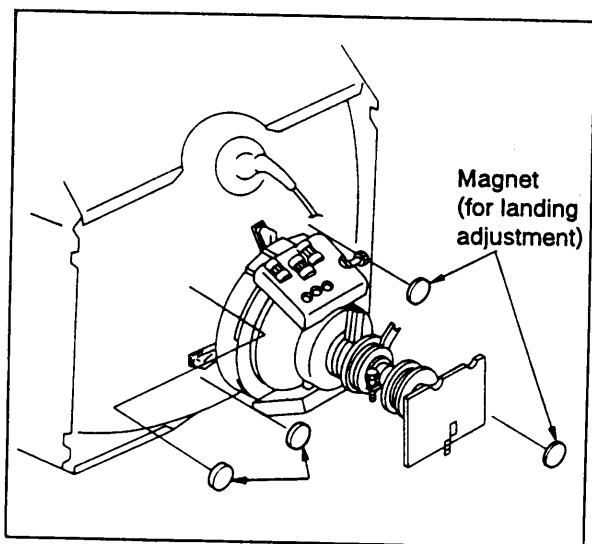

Fig. 6-3-8
- 6) After again the CRT for at least 30 minutes, install a wobbling coil on the neck of the CRT, then adjust the deflection yoke position with the landing checker and adjust the purity, the four corner landing, and the deflection yoke tilt. The four corner landing error must be no greater than $5 \mu m$ for green and no greater than $10 \mu m$ for blue and red. As necessary, attach CRT magnets as shown in Fig. 6-3-8 (no more than one magnet at each corner). After installing magnets, degauss the CRT screen with a handled degauss.